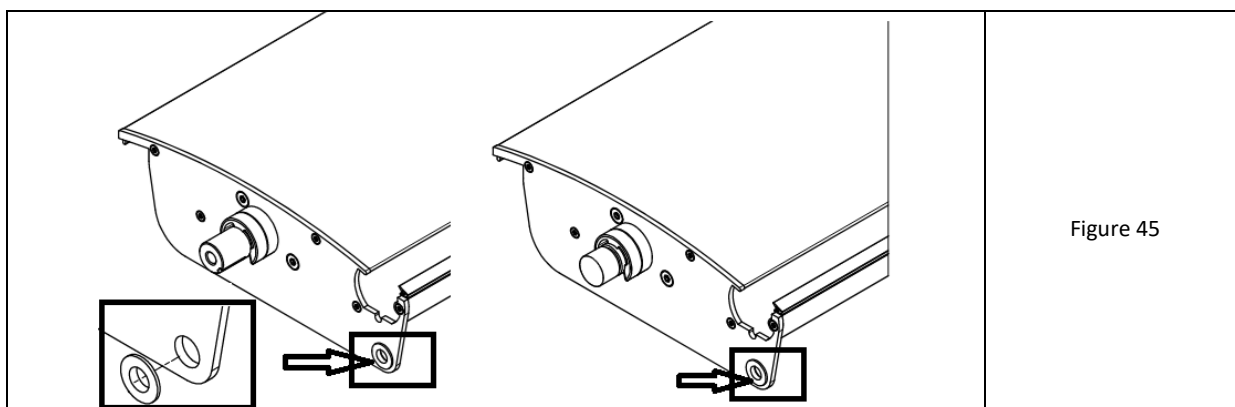

Figure 45
4. Install small plastic slip rings into the holes in the lower corner of the end caps from the outside (fig.45). Blade pins do not have pre-applied spacer rings Clip.